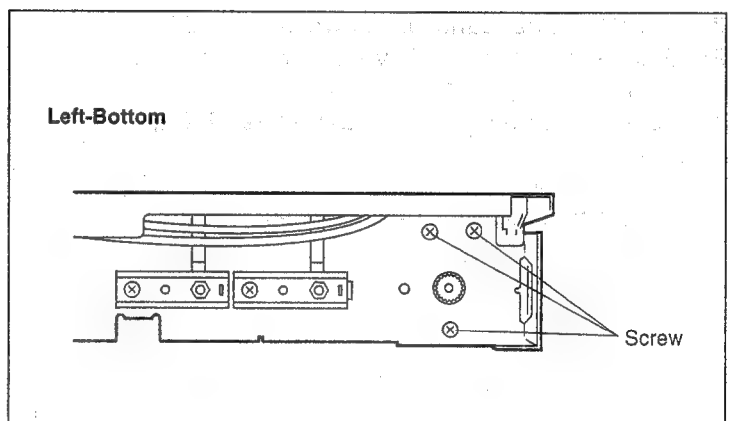

Fig. 7-29
- 4) Remove 3 screws as shown in Fig. 7-29 and remove the screen motor with its harness and bracket.